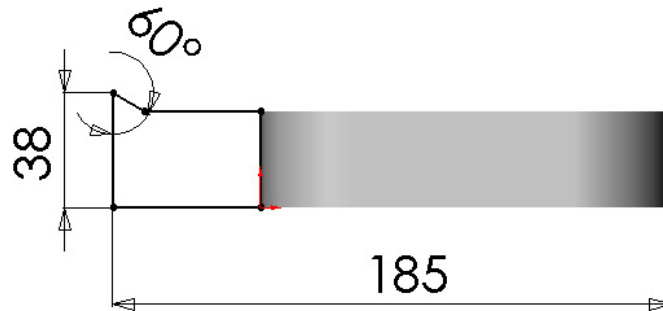

Figure 6 Boss sketch
11. Select **Dimension**  on the Sketch Relation toolbar, and dimension the sketch as shown in Figure 6.